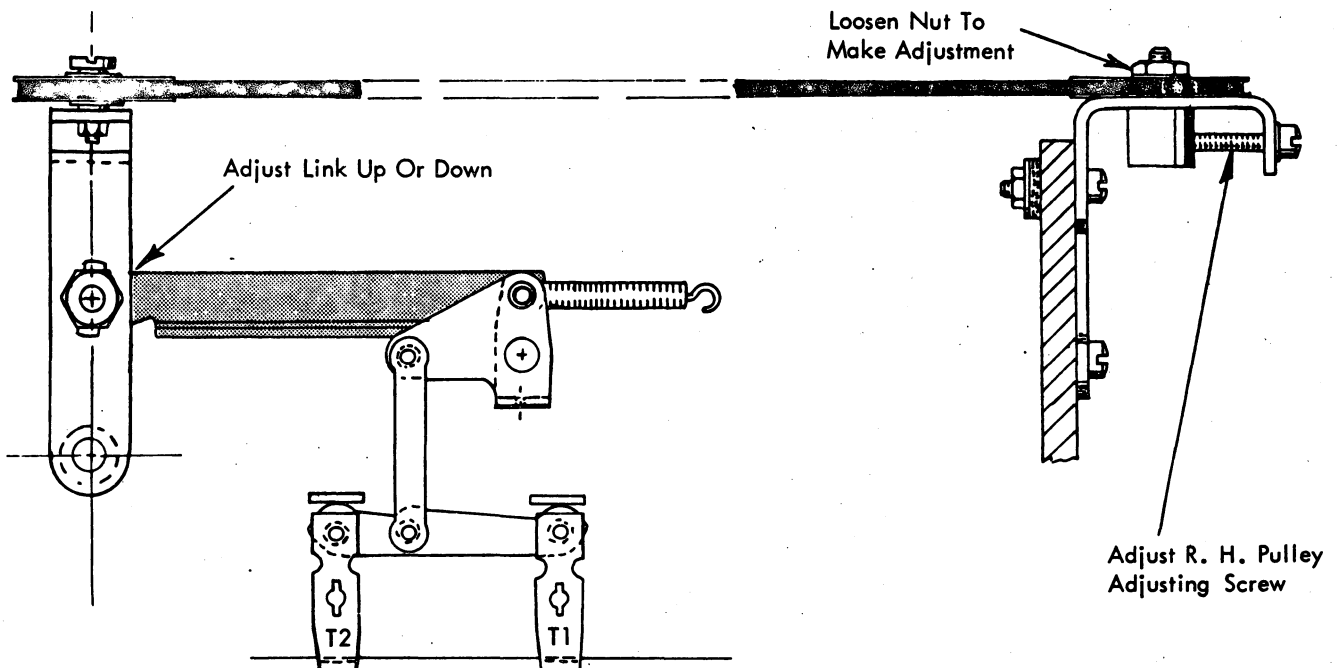
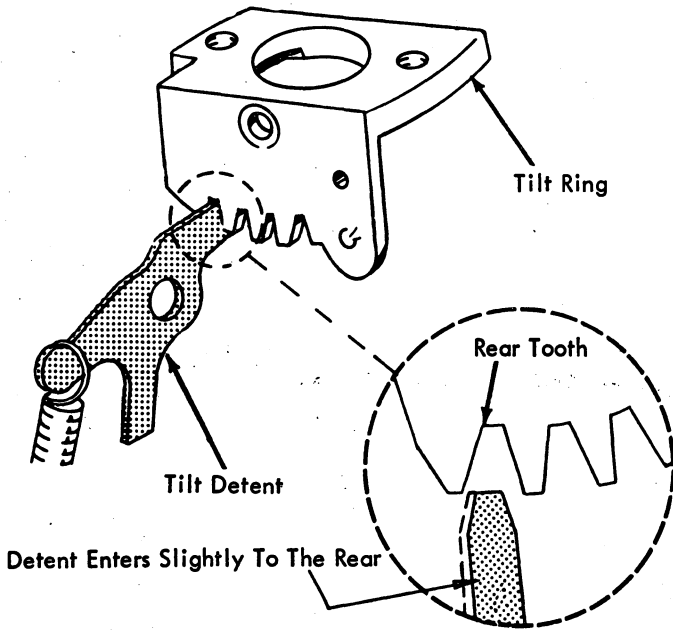

FIGURE 109. Tilt Mechanism
FIGURE 110. Rough Homing
3. **Tilt Arm Motion** - Adjust the tilt link up or down on the tilt arm (Fig. 109) to control the tilt ring motion so that the tilt ring will coarse align the same for a 3-tilt character as it does for a zero-tilt character.
In order to check this adjustment, it is necessary to roughly home the tilt ring first. To rough home, half-cycle a zero-tilt character and adjust the right hand tilt pulley (Fig. 109) so that the tilt detent will enter slightly on the rear side of the V-shaped detent notch in the tilt ring when the tilt ring play is removed in the restoring direction (Fig. 110). As the tilt detent is allowed to seat itself, the rear of the tilt ring should rise slightly. This is a preliminary adjustment and will require refinement after the proper tilt arm motion is obtained.